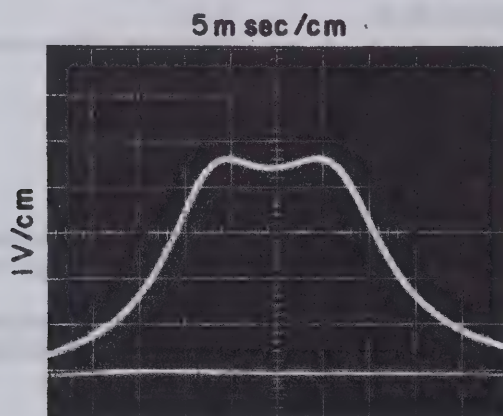

Figure 4-22. 455 kHz Amplifier/AM Detector Response Alignment, Typical Response
8. Adjust A4A17L2 and A4A7L3 for an Oscilloscope waveform which has maximum amplitude and is symmetrical about the marker. See Figure 4-22 for a typical waveform.